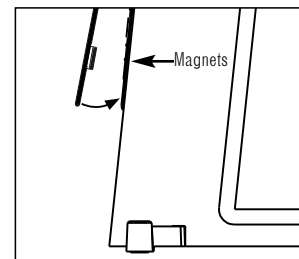

Figure 4.
2. Let the magnets draw the bottom of the grille against the driver trim area. Ensure the hook tabs are properly engaged in the slots of the logo bar to properly support the weight of the grille, as shown in the side view in Figure 4.